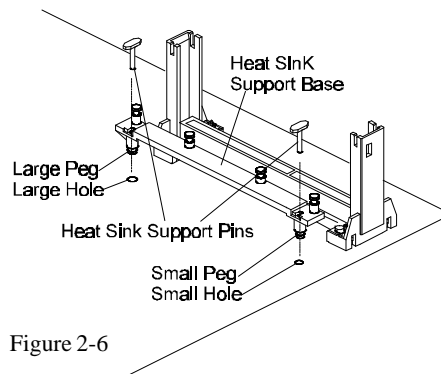

Figure 2-6
2. There are two plastic pegs on the bottom of Heat Sink Support Base (HSSBASE) bar. Mount the two black plastic pegs onto the mainboard. Notice that one hole and the bar of one peg are larger than the other hole and peg. (Refer to Figure 2-6)
3. Insert the Heat Sink Pins (HSSPIN) through the HSSBASE to secure it to the mainboard. (Refer to Figure 2-6)